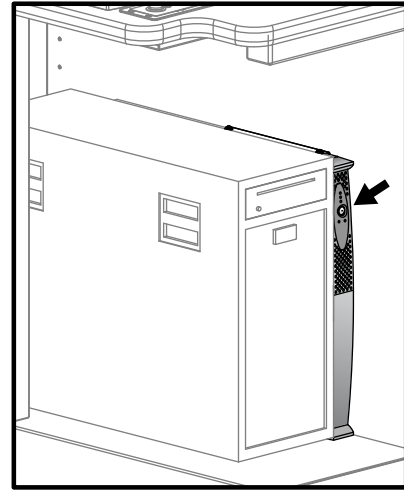

Figure 3-7: Value Console UPS Switch
2. Find the UPS switch. (See Figure 3-6 or Figure 3-7).